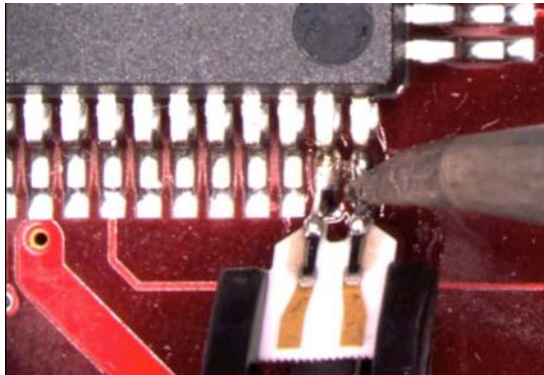

Figure 27 Soldering the ZIF Tip
- 5 Position the ZIF tip with the gold traces facing up as shown in **Figure 27** on page 47 and carefully re-flow the solder. This orients the tip so that it will properly mate with the probe head.